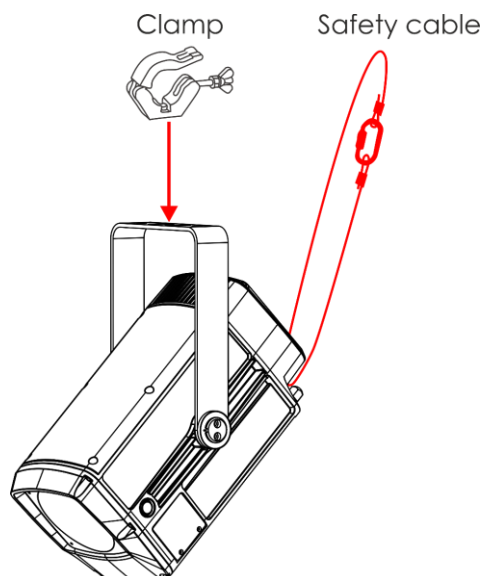

Fig. 06
- 03) Put the safety cable through the safety eye, as shown in Fig. 06.